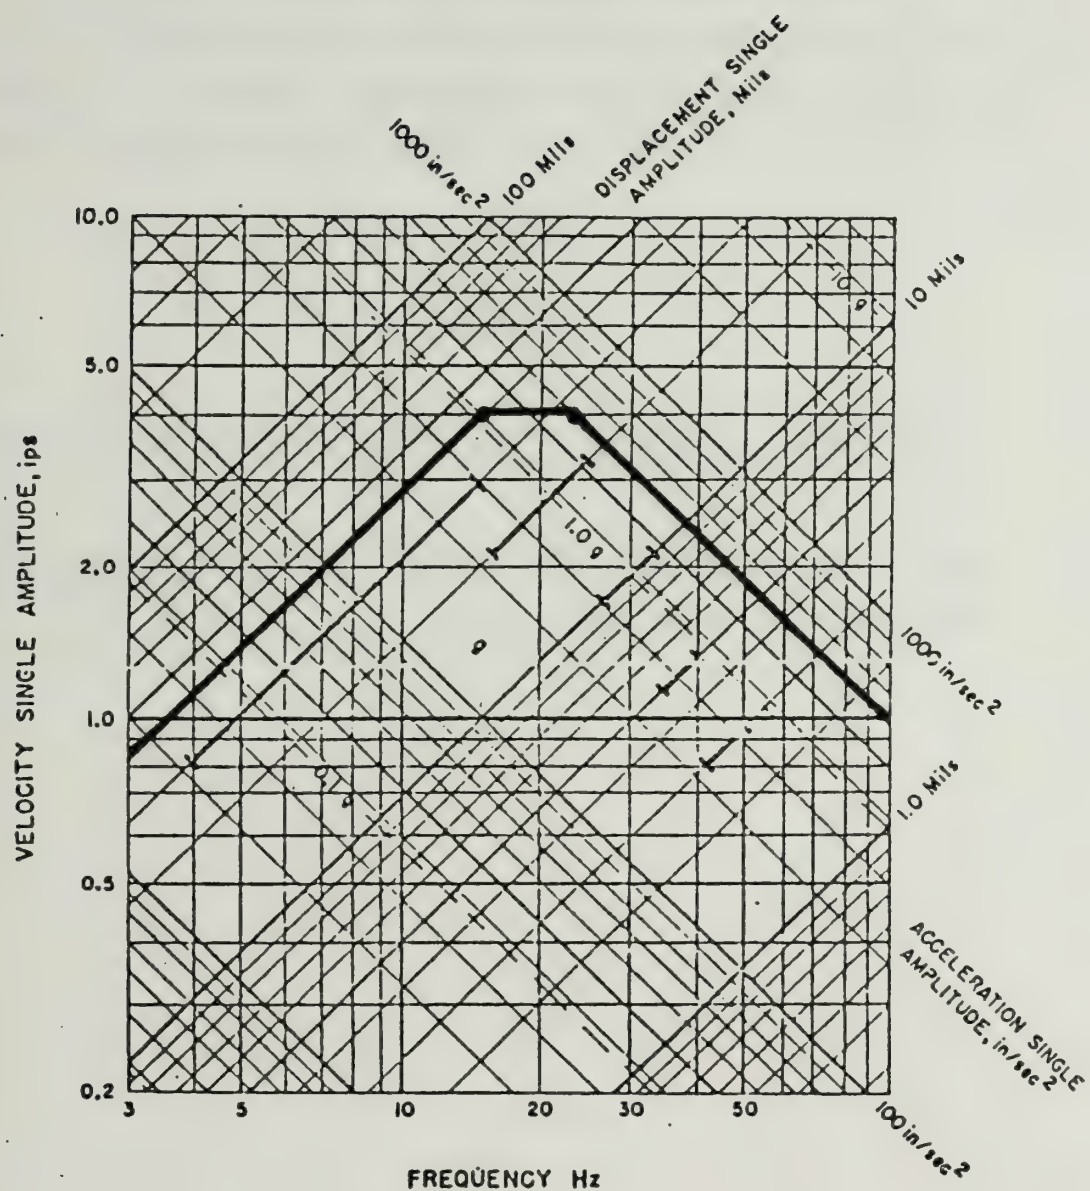

Figure 15. Proposed Vibration Design Criteria for Superconductor Magnet
(1) The 0 to 4 Hz frequency range is to be included in vibration design criteria to take into account of pitch and roll of craft. In the upper frequency range, 60 Hz to 100 Hz frequency range is to be included in vibration design criterion to take into account of mostly craft machinery vibrations. The proposed vibration design criteria must be upperbound given in MIL-STD-167-1. The proposed vibration design criteria is shown in Figure 15. For the frequency range of 0~3 Hz, a constant vibration stroke length (displacement) of 40 mils is recommended.
(2) The recommended duration of vibration for each frequency range is shown below.